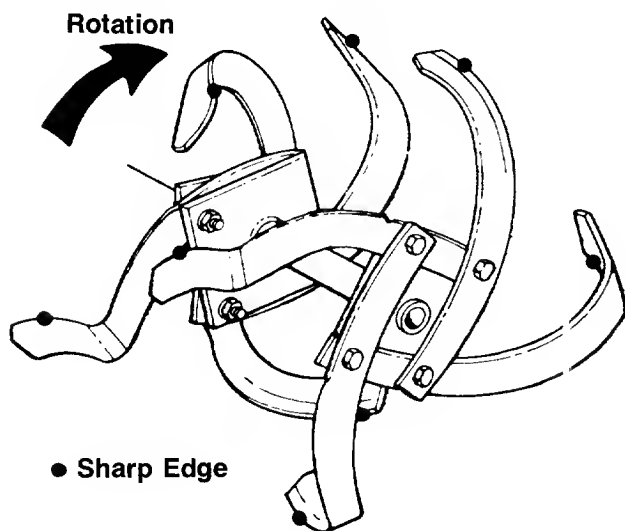

FIGURE 17.
1. Before operating tiller for the first time or if tines have been removed and reassembled for any reason, check to be certain the tines are assembled correctly. **The sharp edge of the tines must enter the soil first as shown in figure 17.** (Figure 17 illustrates the left hand tines, viewed from the left hand side of the tiller. Right hand tines rotate in the same direction as the left hand tines.)